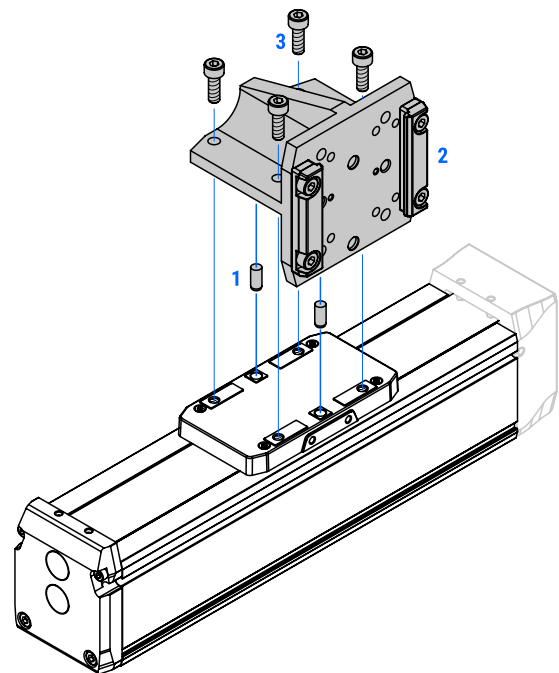

Figure 16: Mounting the connection plate: step 1 and 2.
STEP 1: Insert the centring pins **1** into the centring holes on the MGBS/MGTB carriage, see Figure 16.
STEP 2: Mount the connection plate **2** on the carriage using the connection plate mounting screws **3**, see Figure 16. Ensure that the centring pins **1** are fitted into the prepared holes in the connection plate **2**.